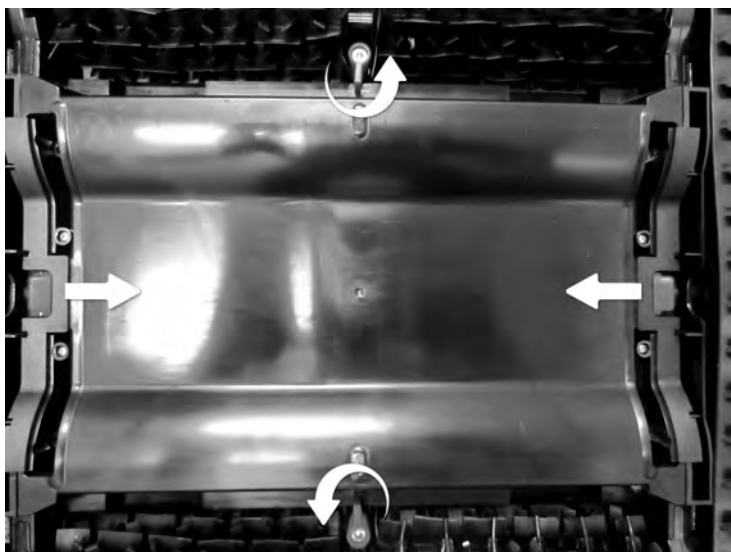

FIGURE 3
- Press the two red tabs inward towards the center of the cleaner as shown in figure 3. Lift the bottom lid with the filter bag up and out of the cleaner.